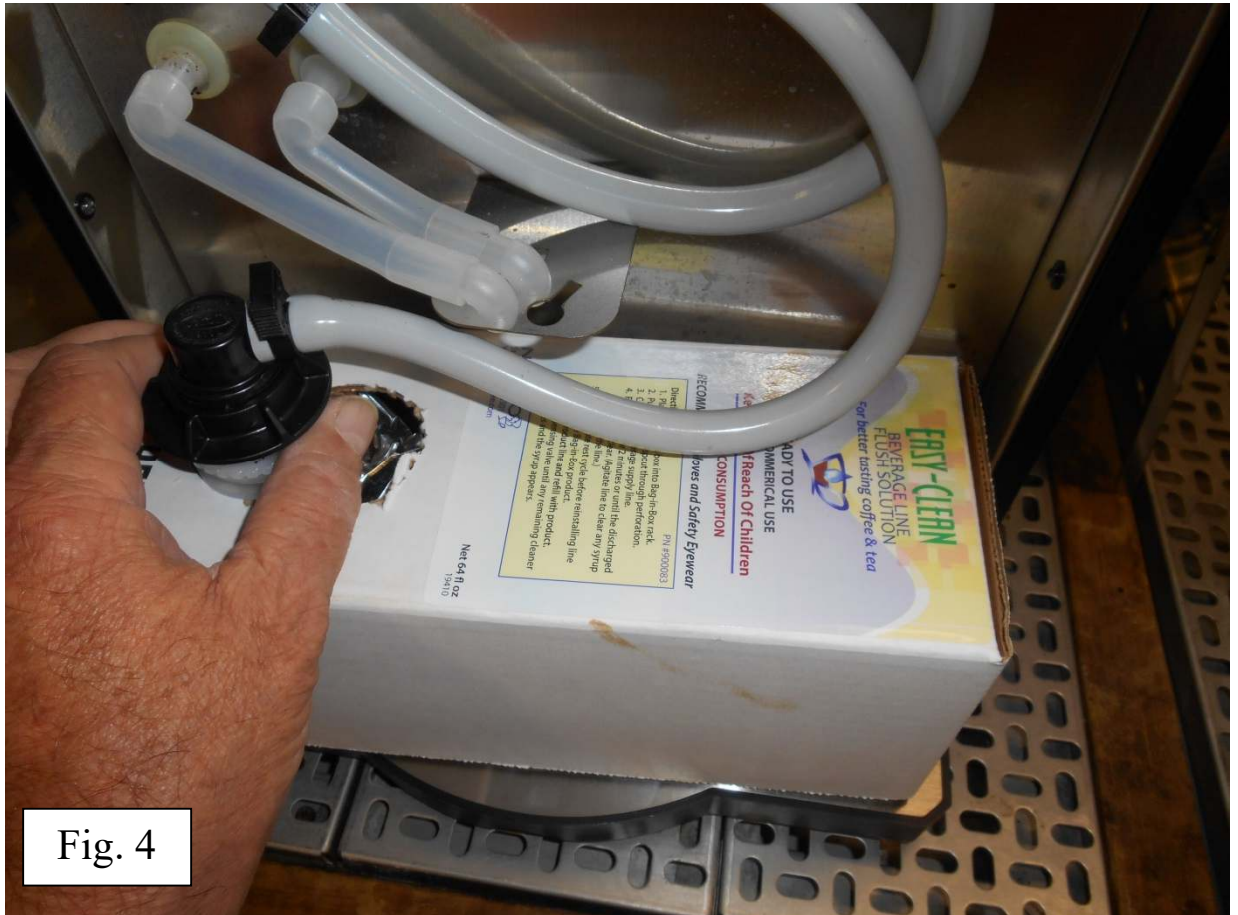

Fig. 4
1. Connect the cleaning solution to the BIB connector for Pump and connect cleaning BIB (PN 900083) as shown in **figure 4**.